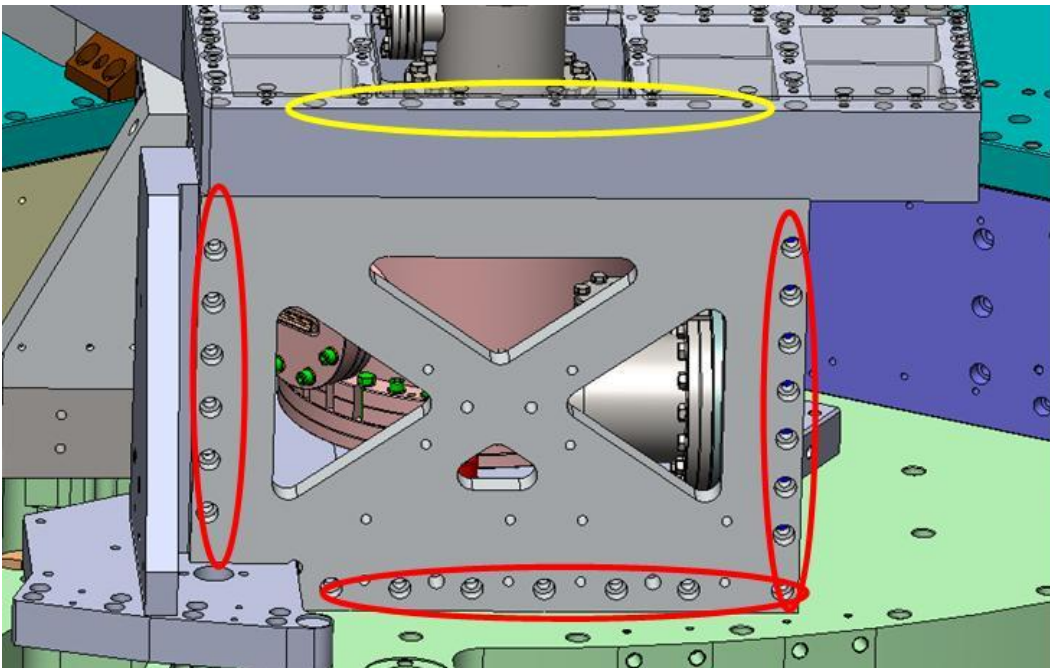

Figure 163: D0902281 Stage 1 Door attachment
(27) 3/8 Vented Washers – UCC WFV-38
- Hold D0902281 Stage 1 Door in place and attach it from the front (circled in red on Figure 163) and from the top (as shown in yellow on Figure 163)